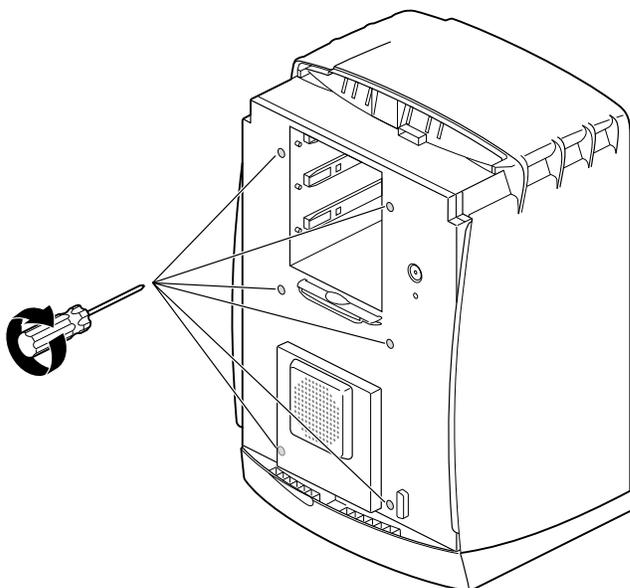

Figure 7-26 Tightening the Captive Screws on the Frontplane Module
3. Tighten the six captive screws, as shown in Figure 7-26.